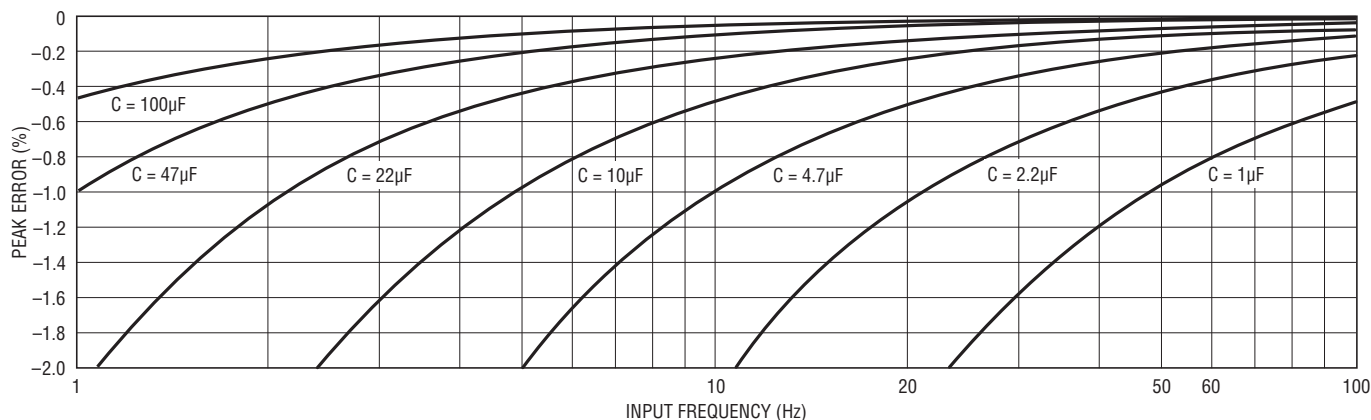
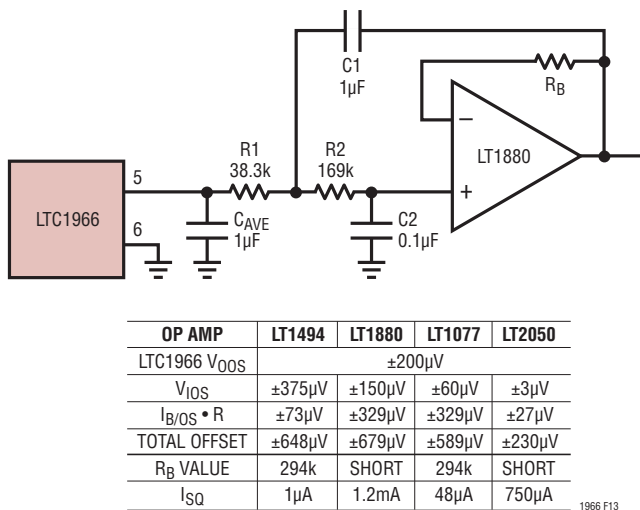
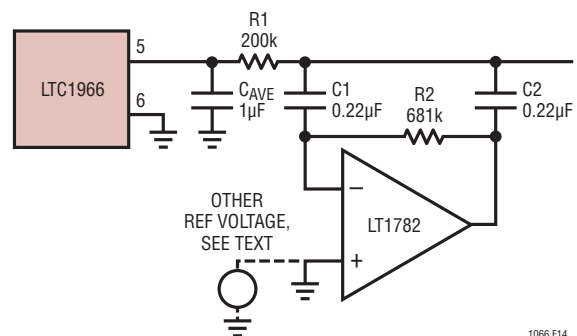

Figure 8. Peak Error vs Input Frequency with One Cap Averaging
Figure 13. Buffered Post Filter
Figure 14. DC Accurate Post Filter
If the application calls for the output of the LTC1966 to feed a sampling or Nyquist A/D converter (or other circuitry that will not average out this double frequency ripple) a larger averaging capacitor can be used. This trade-off is depicted in Figure 8. The peak ripple error can also be reduced by additional lowpass filtering after the LTC1966, but the simplest solution is to use a larger averaging capacitor.
Note that both Figure 6 and Figure 8 assume AC-coupled waveforms with a crest factor less than 2, such as sine waves or triangle waves. For higher crest factors and/or AC + DC waveforms, a larger  $C_{AVE}$  will generally be required. See Crest Factor and AC + DC Waveforms.
Figure 13 shows a basic 2nd order post filter, for a net 3rd order filtering of the LTC1966 RMS calculation. It uses the 85k $\Omega$  output impedance of the LTC1966 as the first resistor of a 3rd order Sallen-Key active RC filter. This topology features a buffered output, which can be desirable depending on the application. However, there are disadvantages to this topology, the first of which is that the op amp input voltage and current errors directly degrade the effective LTC1966  $V_{OOS}$ . The table inset in Figure 13 shows these errors for four of Linear Technology's op amps.
A second disadvantage is that the op amp output has to operate over the same range as the LTC1966 output, including ground, which in single supply applications is the negative supply. Although the LTC1966 output will function fine just millivolts from the rail, most op amp output stages (and even some input stages) will not. There are at least two ways to address this. First of all, the op amp can be operated split supply if a negative supply is available. Just the op amp would need to do so; the LTC1966 can remain single supply. A second way to address this issue is to create a signal reference voltage a half volt or so above ground. This is most attractive when the circuitry that follows has a differential input, so that the tolerance of the signal reference is not a concern. To do this, tie all three ground symbols shown in Figure 13 to the signal reference, as well as to the differential return for the circuitry that follows.
Figure 14 shows an alternative 2nd order post filter, for a net 3rd order filtering of the LTC1966 RMS calculation. It also uses the 85k $\Omega$  output impedance of the LTC1966 as the first resistor of a 3rd order active RC filter, but this topology filters without buffering so that the op amp DC error characteristics do not affect the output. Although the output impedance of the LTC1966 is increased from 85k $\Omega$  to 285k $\Omega$ , this is not an issue with an extremely high input impedance load, such as a dual slope integrating ADC like the ICL7106. And it allows a generic op amp to be used, such as the SOT-23 one shown. Furthermore, it easily works on a single supply rail by tying the noninverting input of the op amp to a low noise reference as optionally shown. This reference will not change the DC voltage at the circuit output, although it does become the AC ground for the filter, thus the (relatively) low noise requirement.
Both of the post filters, shown in Figures 13 and 14, are optimized for additional filtering with clean step responses. The  $85k\Omega$  output impedance of the LTC1966 working into a  $1\mu\text{F}$  capacitor forms a 1st order LPF with a  $-3\text{dB}$  frequency of  $\sim 1.8\text{Hz}$ . The two filters have  $1\mu\text{F}$  at the LTC1966 output for easy comparison with a  $1\mu\text{F}$  only case, and both have the same relative (Bessel-like) shape. However, because of the topological differences of pole placements between the various components within the two filters, the net effective bandwidth for Figure 13 is slightly higher ( $\approx 1.2 \cdot 1.8 \approx 2.1\text{Hz}$ ) than with  $1\mu\text{F}$  alone, while the bandwidth for Figure 14 is somewhat lower ( $\approx 0.7 \cdot 1.8 \approx 1.3\text{Hz}$ ) than with  $1\mu\text{F}$  alone. To adjust the bandwidth of either of them, simply scale all the capacitors by a common multiple, and leave the resistors unchanged.
As predicted by Figure 6, the DC error with  $1\mu\text{F}$  is well under  $1\text{mV}$  and is not noticeable at this scale. However, as predicted by Figure 8, the peak error with the ripple from a  $10\text{Hz}$  input is much larger, in this case about  $5\text{mV}$ . As can be clearly seen, the post filters reduce this ripple. Even the wider bandwidth of Figure 13's filter is seen to cut the ripple down substantially (to  $< 1\text{mV}$ ) while the settling to  $1\%$  happens faster. With the narrower bandwidth of Figure 14's filter, the step response is somewhat slower, but the double frequency output ripple is just  $180\mu\text{V}$ .
within the filter. Scaling the buffered topology of Figure 13 is simple because the capacitors are in a 10:1:10 ratio. Scaling the DC accurate topology of Figure 14 can be done with standard value capacitors; one decade of scaling is shown in Table 2.
**Table 2. One Decade of Capacitor Scaling for Figure 14 with EIA Standard Values**